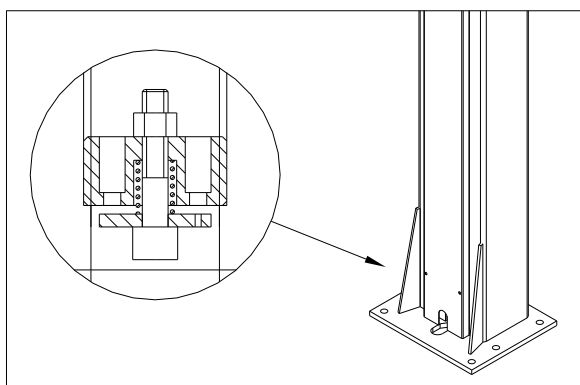

Fig. 12
- ◆ In case of a sudden, great leakage in the hydraulic circuit (a broken pipe), the blocking valves, at the bottom of each Cylinder, will trip. (Fig. 12)